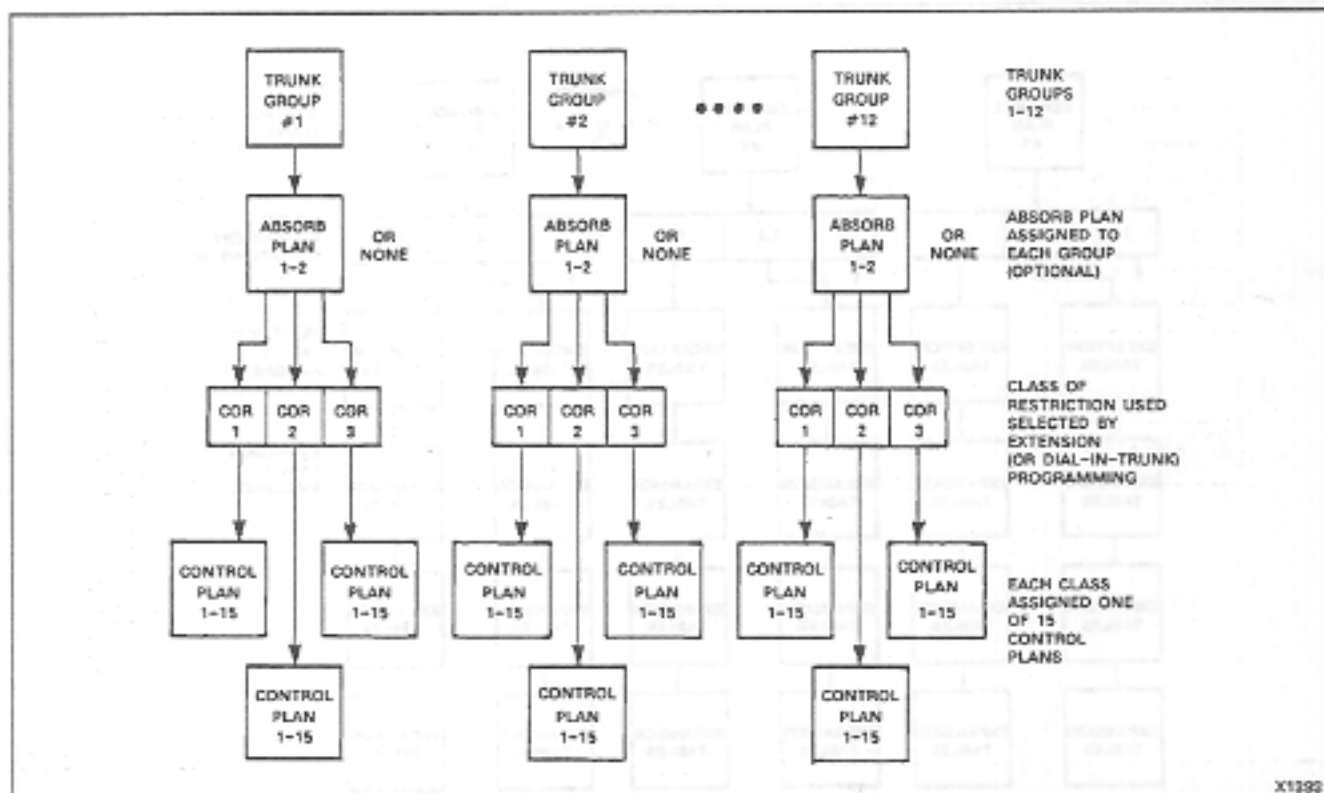

Fig. 4-1(a) Toll Control Architecture Diagram
4.02 The basic architecture of the Multi-Digit Toll Control is illustrated in Fig. 4-1(a) and Fig. 4-1(b). The architecture outlined in these figures is discussed in the remainder of this section, and it does not include the toll-allowed case.